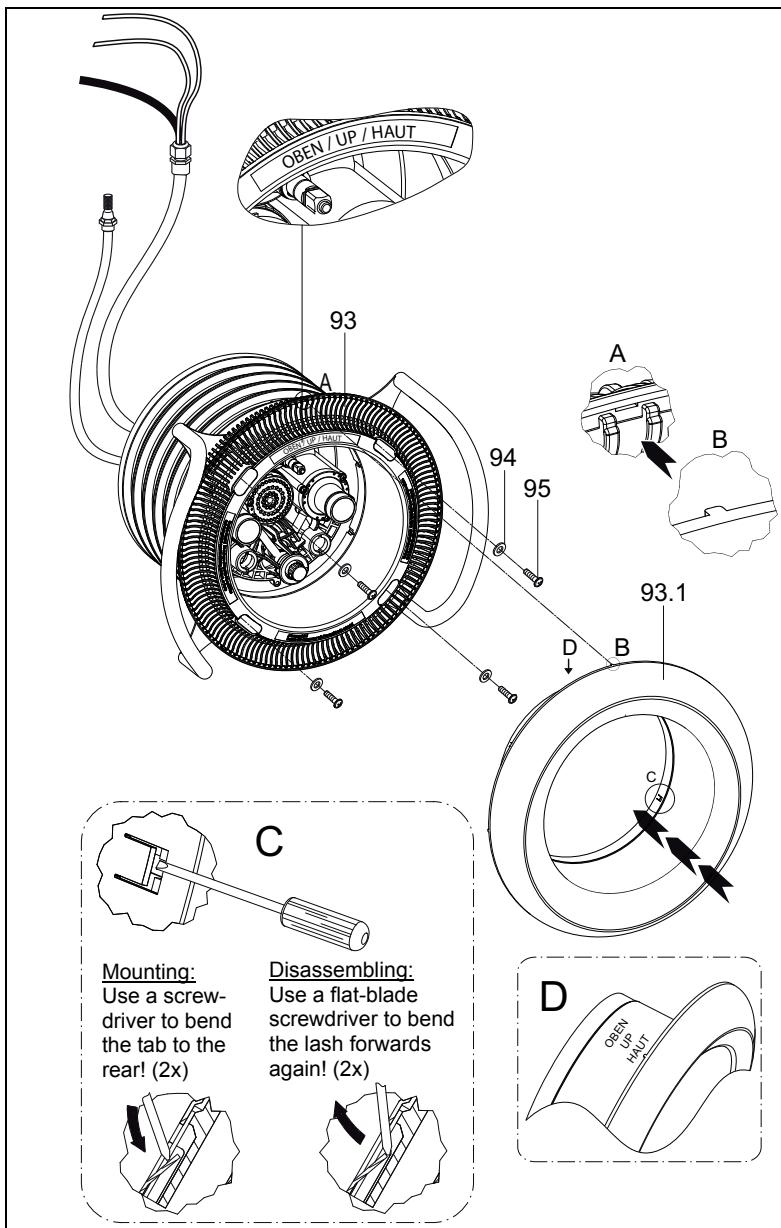

Fig. 11
8. Place the suction panel (**93**) on the support ring (**28**) and fasten with four plain washers (**94**) and four tapping screws (**95**) (*Fig. 11*). Take the mounting position into account!
9. Align the stainless-steel cover (**93.1**) with the projecting centring nubs to the existing recesses of the suction panel (**93**). Observe the "UP" marking on the stainless-steel cover. To fasten the cover use a screwdriver to bend the two offset tabs towards the back (*Fig. 11*).